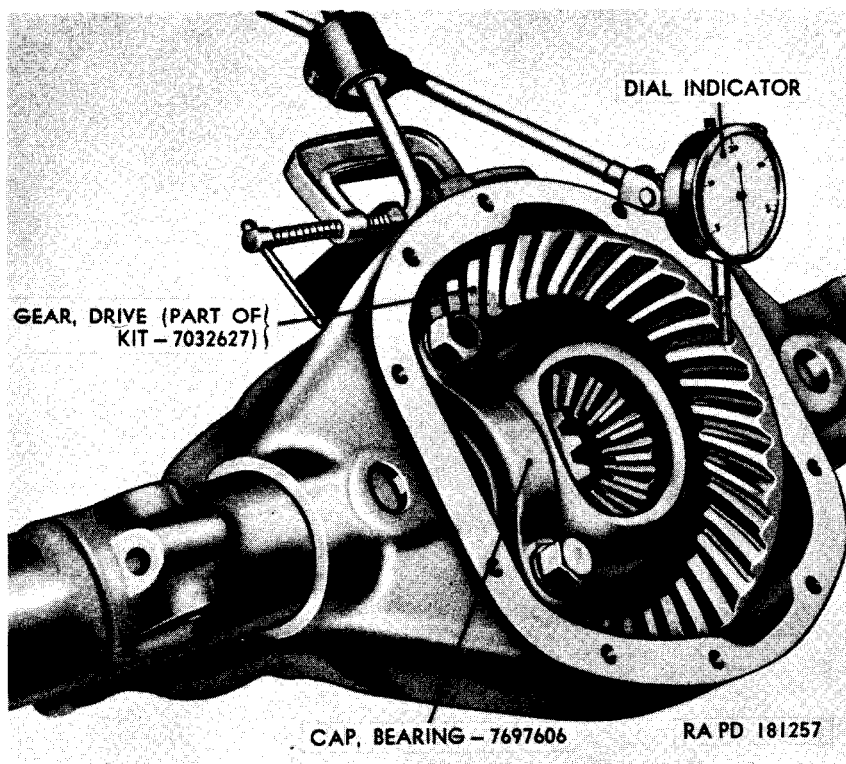

Figure 121. Checking front axle differential drive gear.
b. Check Differential Case Backlash. Install a dial indicator on housing so that indicator point rests on surface of drive gear tooth (fig. 121). Rotate drive gear back and forth and observe reading on dial indicator. If backlash is less than 0.005 inch or more than 0.007 inch, remove differential assembly from housing. If backlash is less than 0.005 inch, the drive gear must be moved away from drive pinion. If backlash is greater than 0.007 inch the drive gear must be brought closer to drive pinion. To obtain correct backlash, remove bearing shims equal to the error in backlash from the drive flange side of differential case and add them to the other side.